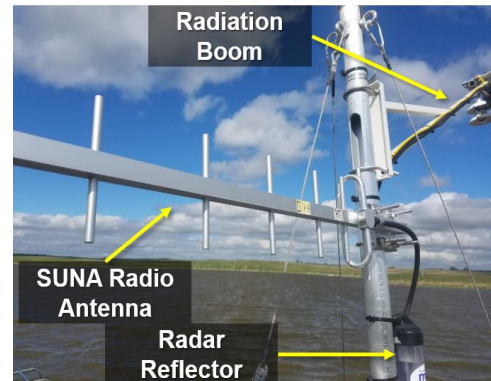

Figure 14. SUNA Radio Antenna and Radar Reflector on Met Mast
- h. Inspect SUNA radio antenna and radar reflector, which also mounts to the Mast (see Figure 14). The SUNA radio antenna should point towards the AIS Aquatics Portal.